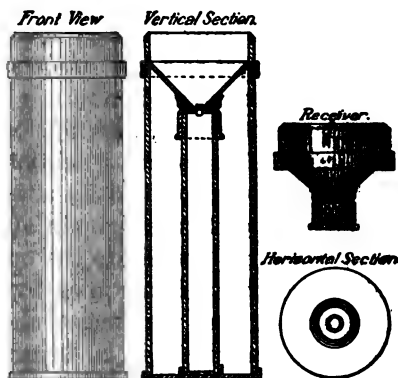

FIG. 205. — Rain gauge.
**Rain gauge.** In order to measure the amount of rain, a rain gauge is used (figure 205). This is so constructed that the area of the top of the funnel, which receives the rain, is ten times the area of the small tube in which it collects. This raises the level of the water ten times as high, and makes it easier to read. This is measured by means of a ruler and the result is divided by ten to get the true rainfall. In order to measure snow, a volume equal in area to the top of the funnel and as deep as the fall of snow is collected and melted, and the water is measured the same as the rain.